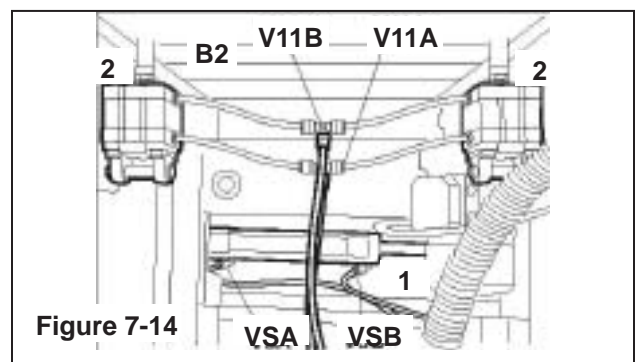

Figure 7-14
Connect air tubes from the sealing machine to the conveyor centering guides cylinder connectors (1) and to conveyor belt cylinders (2). Connects the air tubes to the connectors above mentioned pay attention to the reference numbers (**Figure 7-14**).